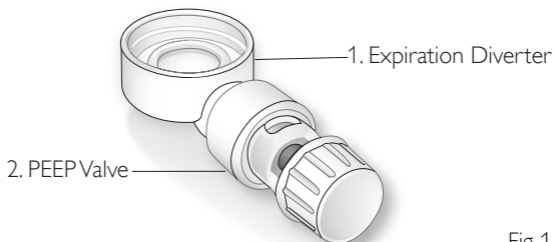

Fig 1
One – 30mm OD Expiration Diverter (Fig 1, item 1)
One – Disposable PEEP Valve – 30 mm ID (Fig 1, item 2)